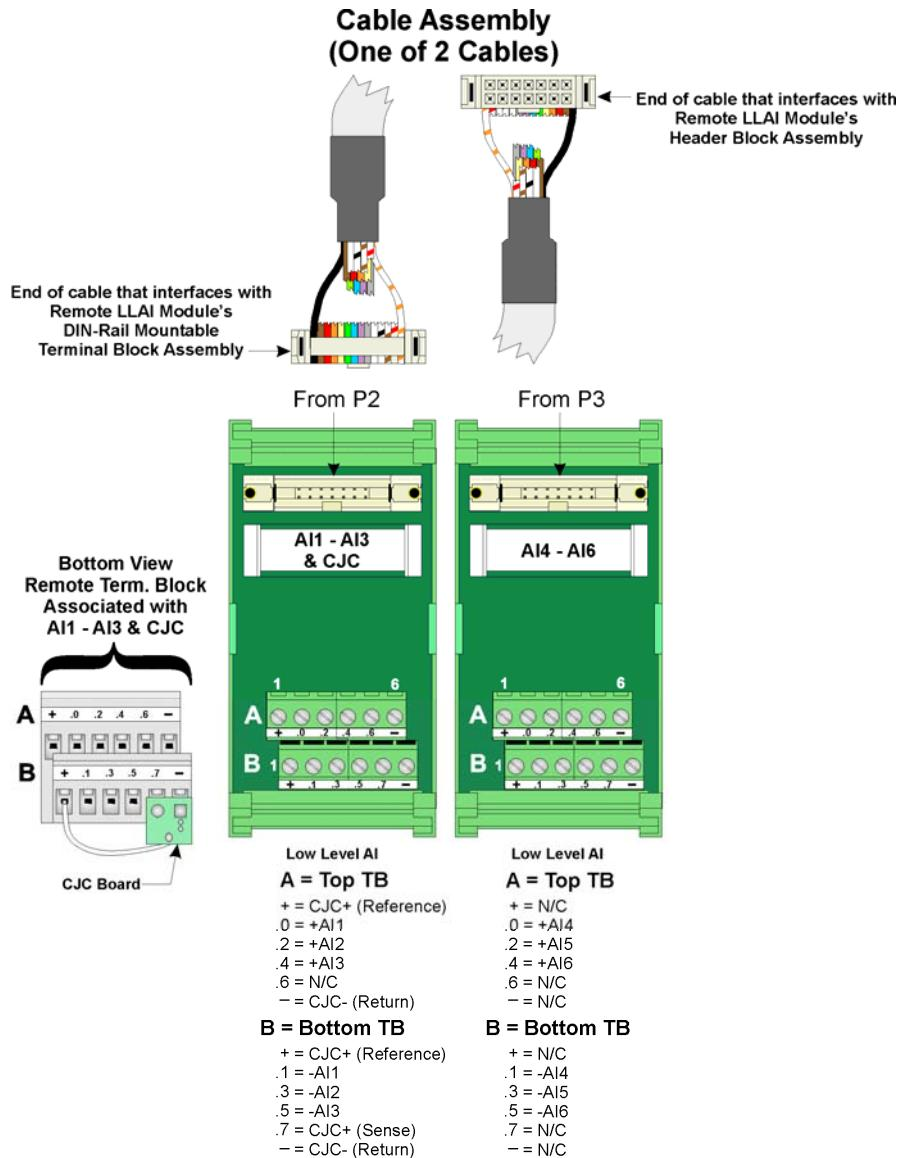

Figure 3-30. Isolated LLAI Module Wiring (Remote Termination)
**Wiring the Module** *Figure 3-29* shows field wiring for locally terminated isolated LLAI modules. *Figure 3-30* shows field wiring for remotely terminated isolated LLAI modules.